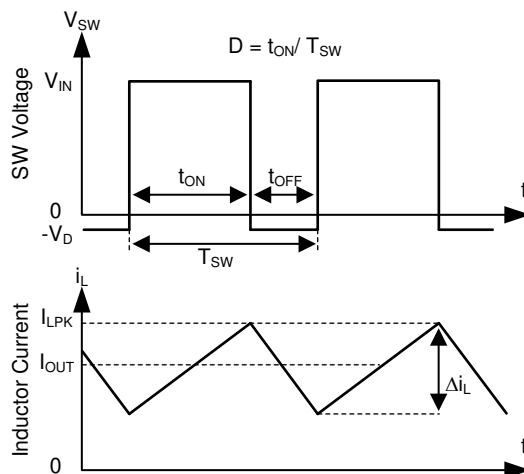

FIG 10-1. SW Node and Inductor Current Waveforms in Continuous Conduction Mode (CCM)
The following operating description of the TPS2584x-Q1 refers to the Functional Block Diagram and the waveforms in Figure 10-1. TPS2584x-Q1 is a step-down synchronous buck regulator with integrated high-side (HS) and low-side (LS) switches (synchronous rectifier). The TPS2584x-Q1 supplies a regulated output voltage by turning on the HS and LS NMOS switches with controlled duty cycle. During high-side switch ON time, the SW pin voltage swings up to approximately V_{IN} , and the inductor current i_L increase with linear slope $(V_{IN} - V_{OUT}) / L$. When the HS switch is turned off by the control logic, the LS switch is turned on after an anti-shoot-through dead time. Inductor current discharges through the LS switch with a slope of $-V_{OUT} / L$. The control parameter of a buck converter is defined as Duty Cycle $D = t_{ON} / T_{SW}$, where t_{ON} is the high-side switch ON time and T_{SW} is the switching period. The regulator control loop maintains a constant output voltage by adjusting the duty cycle D . In an ideal buck converter, where losses are ignored, D is proportional to the output voltage and inversely proportional to the input voltage: $D = V_{OUT} / V_{IN}$.